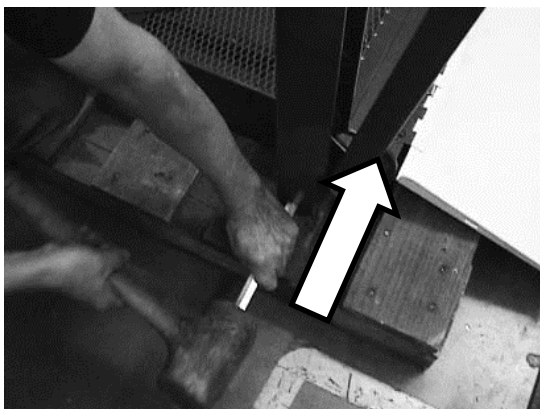
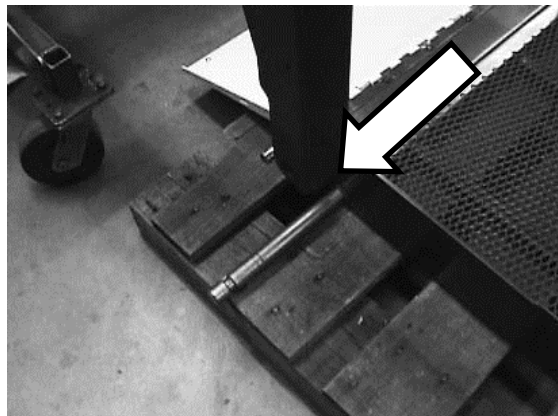

Figure 14a. Drive Out Main Shaft
Figure 14b. Main Shaft
15. Refer to **Figure 14a** and **Figure 14b**. Use a cylinder to drive main shaft out from right vertical arm.